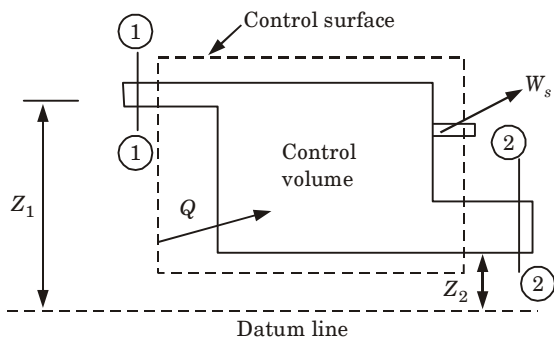

Fig. 9.
- Let's consider the flow of a fluid through a control volume as shown in Fig. 9. In the time interval " dt ", there occurs a flow (or flux) of mass and energy into the control volume.